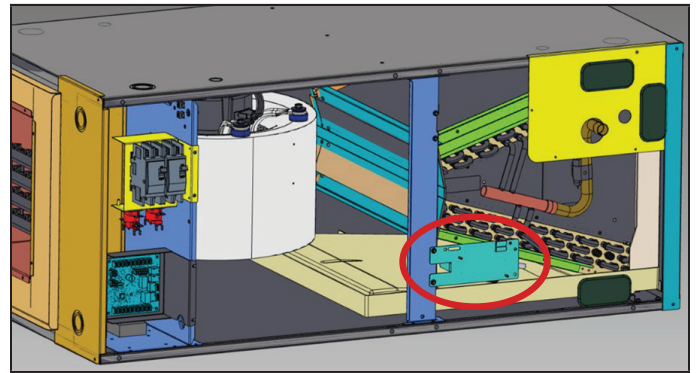

FIGURE 11
- 3 - After coil assembly and center support bracket are reinstalled into unit, with air handler unit panels removed, install sensor bracket assembly to the center support bracket by lining up the holes as shown in figure 11.